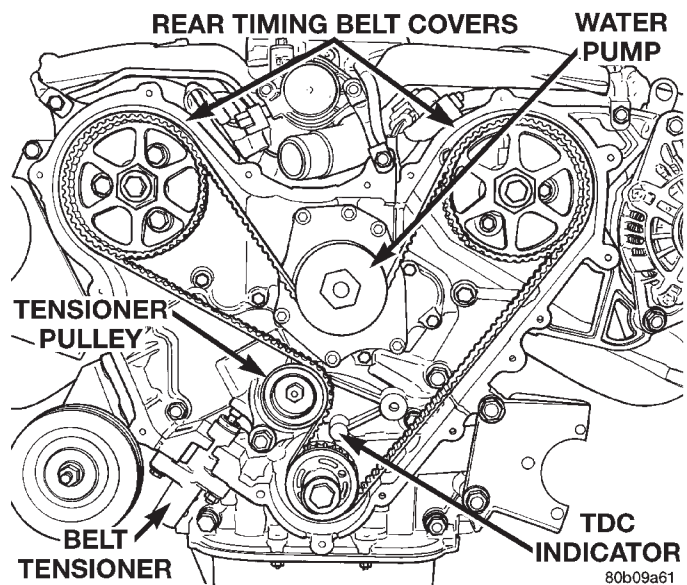

Fig. 48 Timing Belt System
(1) Place crankshaft sprocket to the TDC mark on the oil pump housing (Fig. 48).